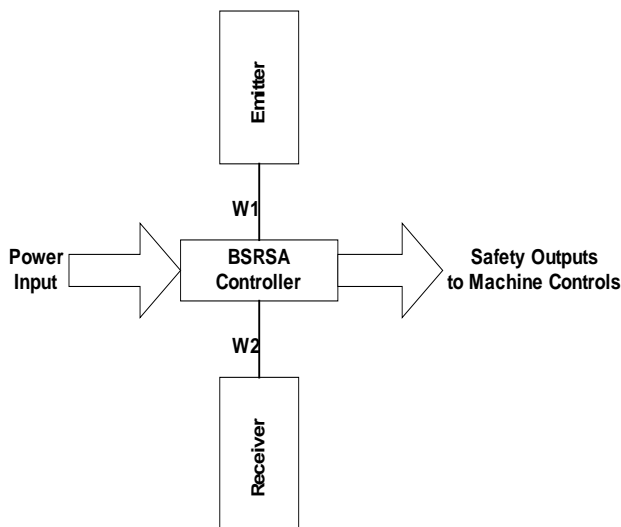

Figure 47 - BSRSA System Block Diagram
The BSRSA interface unit has four internal terminal strips, designated X1, X2, X6, and X7. Each connection point is mechanically suitable for (1) 2.5mm², 14 AWG wire. Crimped ferrules or tinning must be used on all stranded wires. **Figure 47** shows the system block diagram for the BSRSA controller.